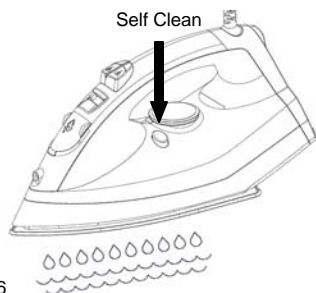

Fig. 6
7. Hold the iron over the sink in a horizontal position and press the self clean button. Hot water and steam will be emitted from the soleplate. (Fig. 6) Swing the iron lightly back and forth gently to allow lime and dust particles to come out.